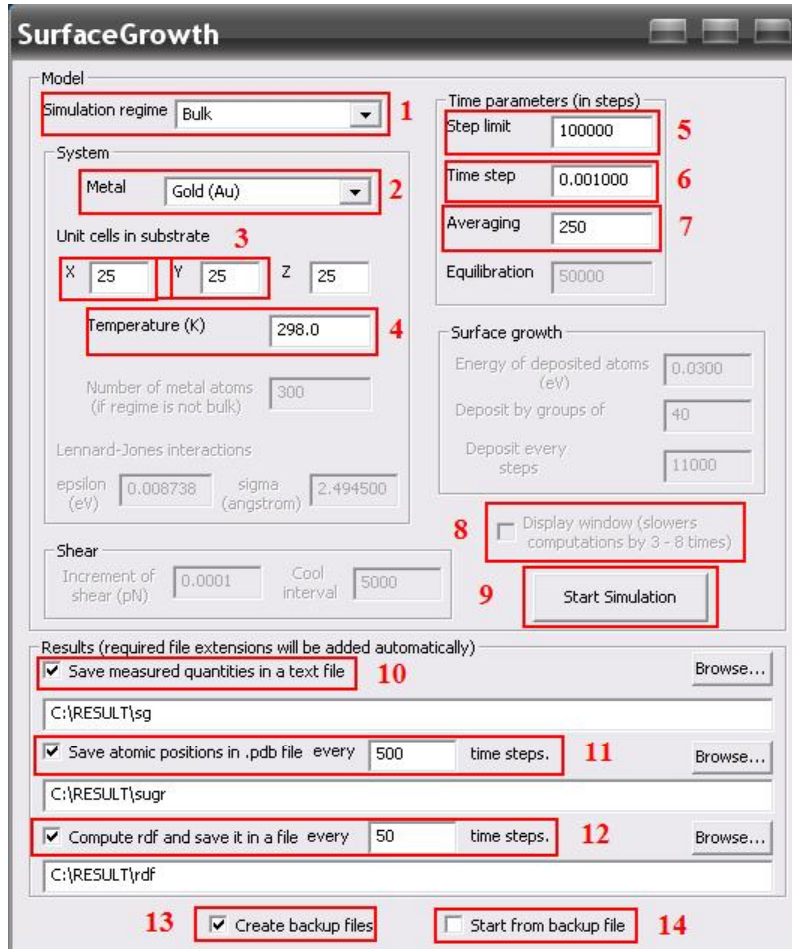

Figure 4: Parameters which are common for all the three simulation regimes.
Let us consider the parameters which are common for all the three regimes (numbers of the elements in the following list correspond to the numbers in Fig. 4):
- 14 – this flag indicates the desire to resume the interrupted calculation using backup files. Setting this flag leads to disabling all the controls except the flag for the selection of the output file path (10 in Fig. 4) and “Start Simulation” button. If the file path is not selected, but before the interruption the file was created, then output will be saved in the directory from which the application was called. Note that after pressing the button “Start Simulation” dialog box controls *do not reflect* values of the parameters, being used in the simulation. Also note, that back up does not work always, especially for large systems after several interruptions.